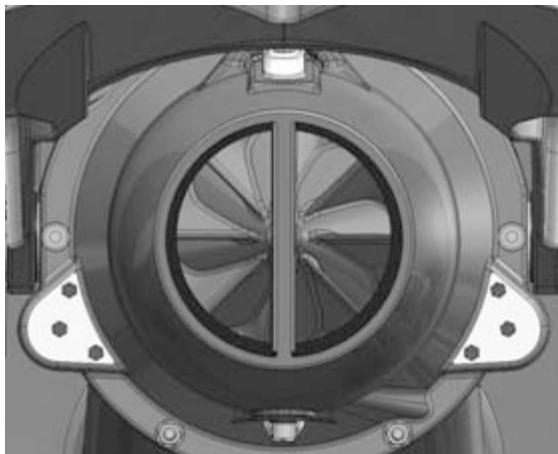

Figure 36. Checking the stator for blockages
3. Check the stator or nozzle unit (Figure 36).